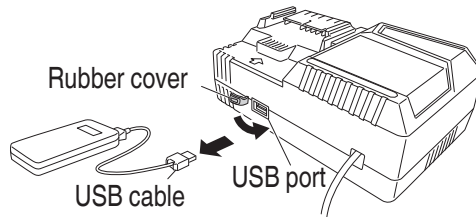

Fig. 16
- (3) When charging is completed
- Unplug the power cord from the electrical outlet. (Fig. 16)